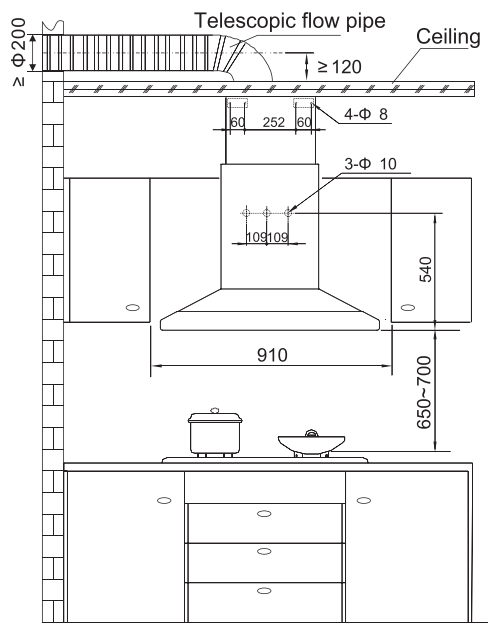

Figure 1
- Duct cover installation method as Figure 1;